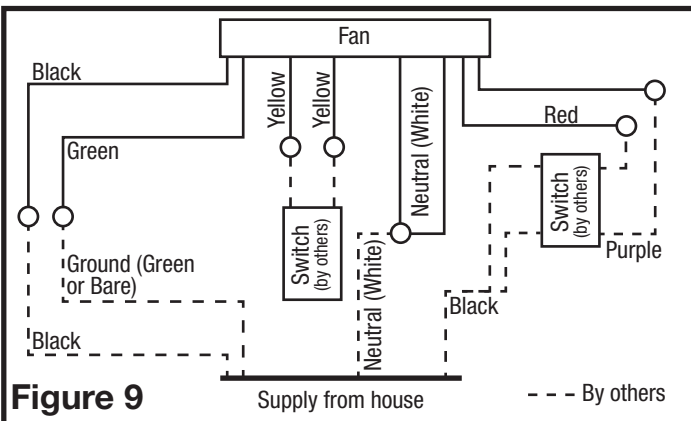

Figure 9
2. **Continuous Ventilation:** For two speed fans wired for continuous ventilation, connect the White wires of the fan to the White (Neutral) wire from the power source. Connect the ground wire from the house to the green wire from the fan housing. Connect the Black wire of the fan to the Black wire (Hot) from the power source. Using a properly grounded standard duplex toggle switch (such as Leviton 5224-2W, not included) connect the Black wire from the supply to one side of the top and bottom switch. Connect the Red wire (light) from the fan housing to the other side of the top switch and connect the Purple wire (night light) from the fan housing to the other side of the bottom switch. Using a second properly grounded standard duplex toggle switch, connect the Hot Yellow wire from the fan to the input of the switch. Connect the second Yellow wire from the fan to the output side of the switch. Closing the switch will change from normal to high speed (Figure 9).